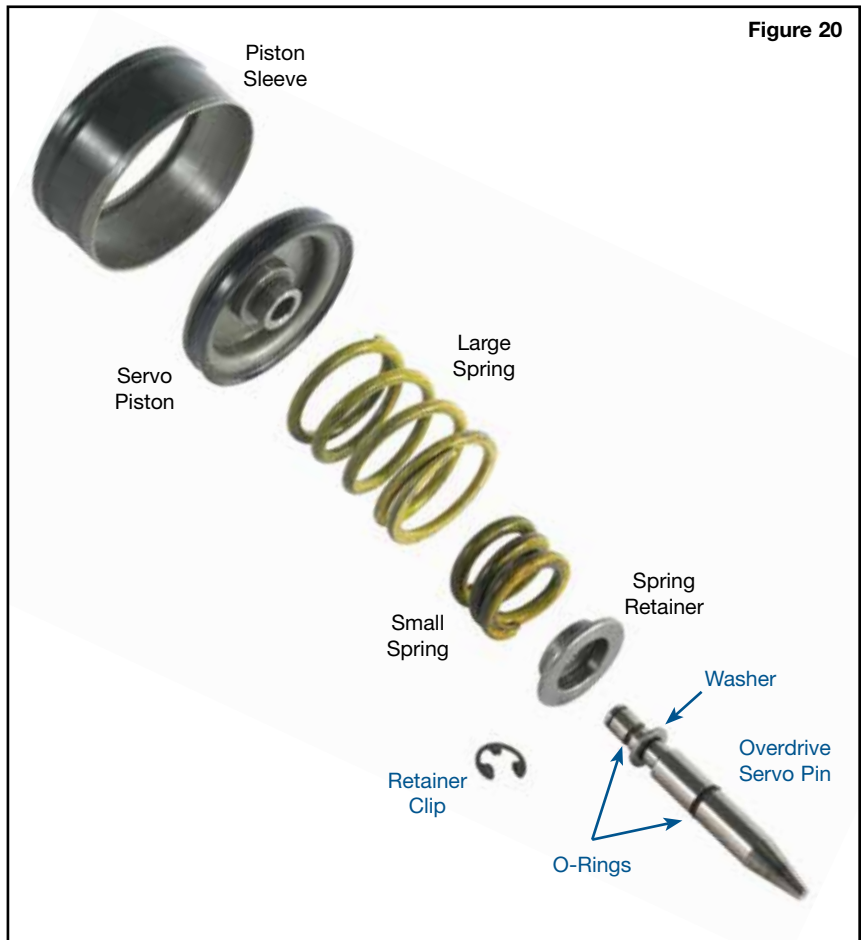

Figure 20
Step 14 Replace Overdrive Servo Pin (Figure 20)